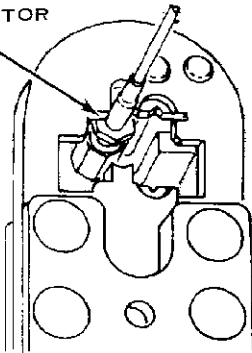

FIG. 7
- (c) Place Ferrule on Crimping Die; Shoulder on Connector Body rests against Die. See Figure 7.